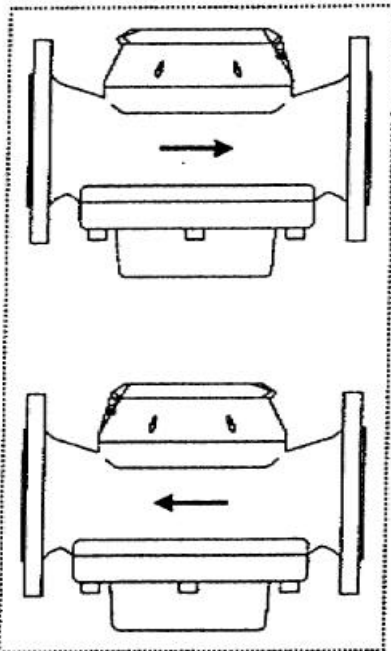

Figure 5
- Ring piston meters MIC Series with steam heating must always be mounted exactly horizontal to prevent the possibility of steam blowback (Figure 5) .
- Ring piston meters can be mounted in any position without a straight steadying zone (Figure 5 and 6).